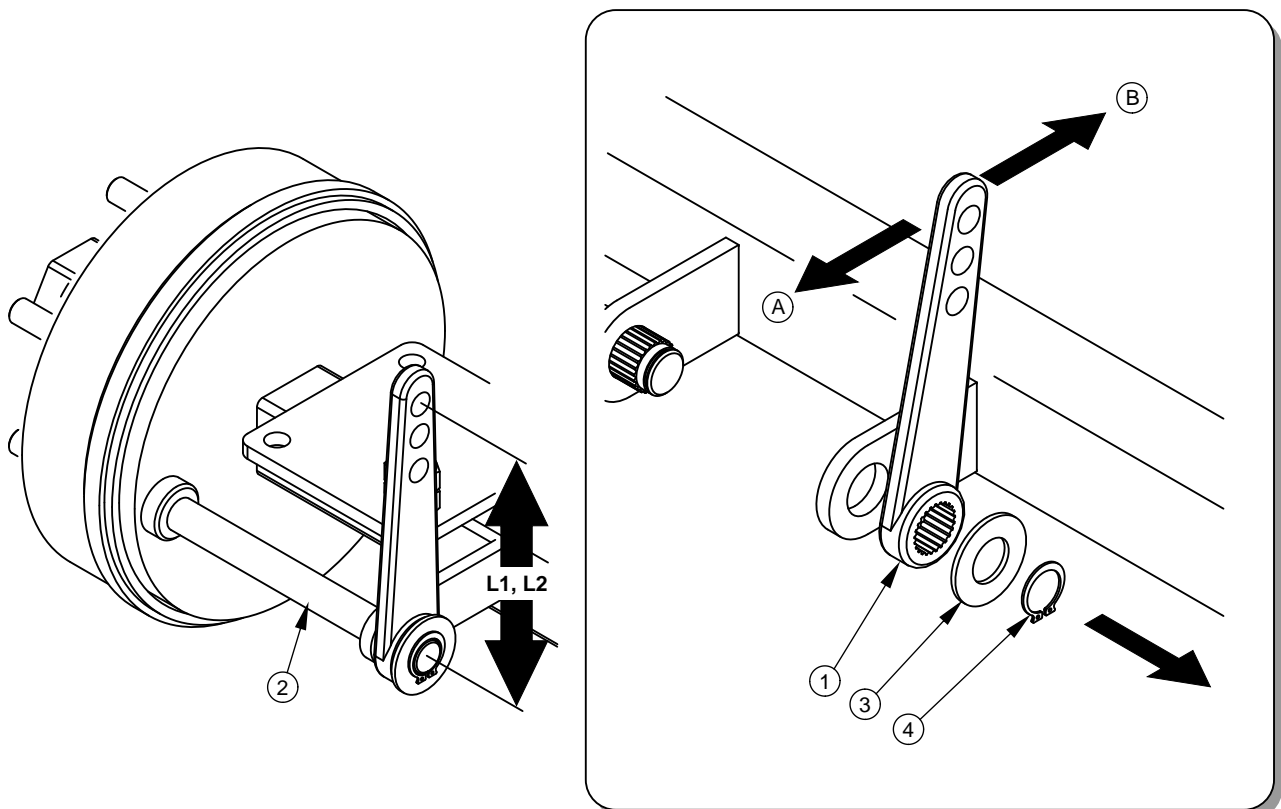

FIGURE 5.4 Adjustment of axle mechanical brakes
Trailer wheels must brake simultaneously. Brakes adjustment involves changing the setting of the expander arm (1) (FIGURE 5.4), in relation to expander shaft (2).